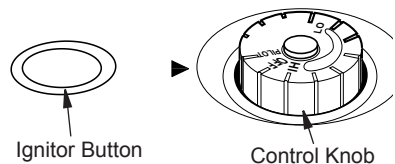

Figure 18 - Control Knob in the OFF Position
- Wait five (5) minutes to clear out any air. Then smell for gas, including near the floor. If you smell gas, STOP! Follow "B" in the safety information on page 16. If you do not smell gas, go to the next step.
- Turn control knob counterclockwise  to the PILOT position. Press in control knob for five (5) seconds (see Figure 18).